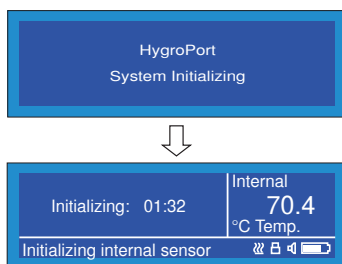

Figure 4.3 - Initialization start-up
3. Switch on the instrument by means of the Power ON switch located on of the instrument (Item 3, Fig 2.1). The instrument display will now come on, initially showing the start up screen, followed by the Initialization screen (see Figure 4.3).